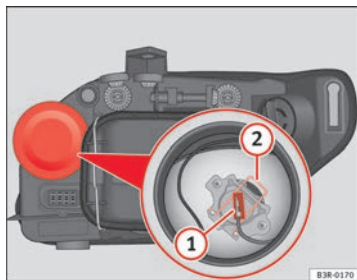

Fig. 197 Main beam headlights
- Remove the connector ⇒ fig. 197 **1** from the bulb.
- Press the spring ⇒ fig. 197 **2** inwards and to the right.